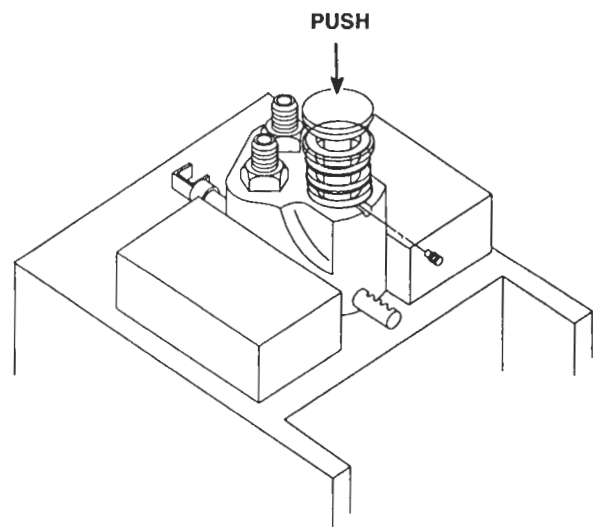

Figure 34. Installing Injector Follower Stop Pin
26. Place the stop pin (Figure 34.) on the injector body so that the follower spring rests on the narrow flange of the stop pin.